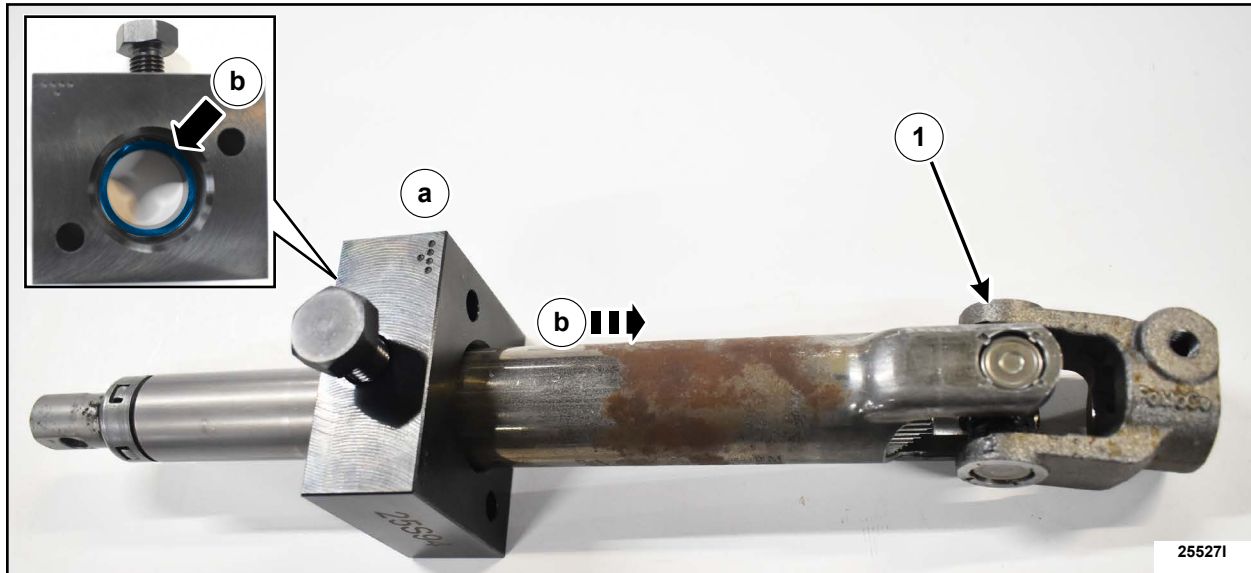

FIGURE 6
5. Install the staking block. See Figure 6.